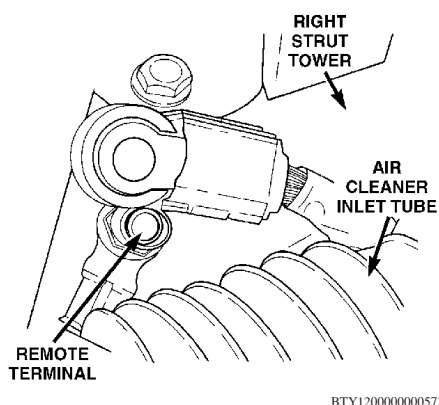

Fig. 1 Battery ground cable remote terminal connector removal
3. Disconnect and isolate battery ground cable from remote terminal on shock tower, **Fig. 1**.